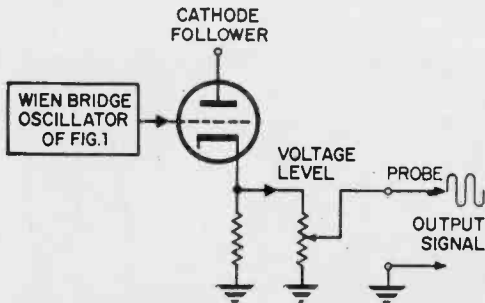

Fig. 5. Cathode follower output in audio generator provides low impedance output.
**Output.** To complete the audio generator, a third stage is added; the cathode follower shown in Fig. 5. This tube prevents any